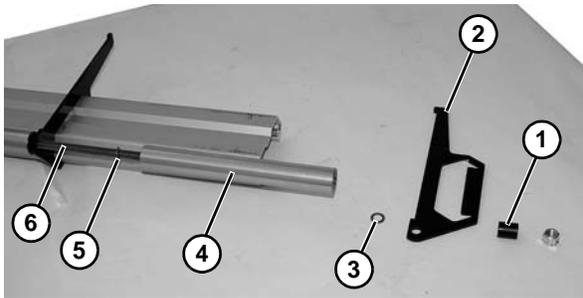

Figure 58
22. Remove spacer (Figure 58, item 1), plate (Figure 58, item 2), washer (Figure 58, item 3), roller (Figure 58, item 4), second washer (Figure 58, item 5) from axle shaft (Figure 58, item 6).